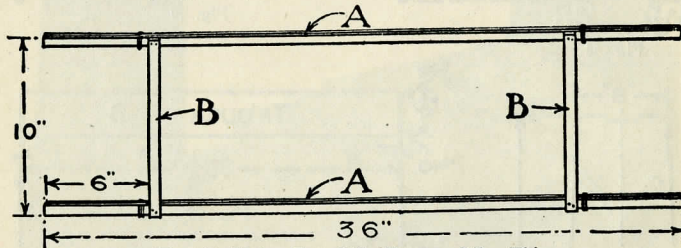
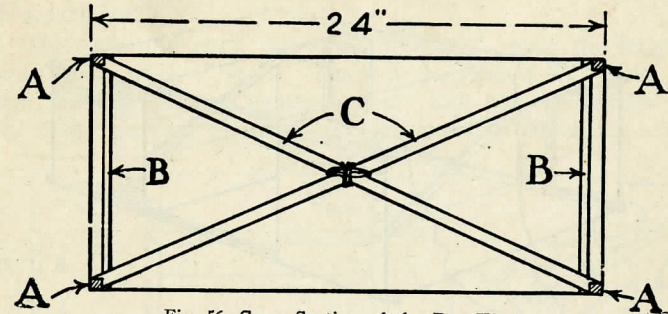
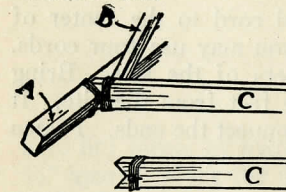

Fig. 55—Make Two Side Frames Like This
Fig. 56—Cross-Section of the Box Kite
Fig. 57—Detail of Diagonal Braces
The sticks may be of any strong, light-weight wood of straight grain. Cut with a sharp rip saw four horizontal sticks 3/8 inch thick and 3/8 inch wide by 36 inches long (A, Fig. 55), and four upright connecting sticks (B, Fig. 55) 1/4 inch thick, 1/2 inch wide and 10 inches long. Nail the upright sticks and the horizontal ones 6 inches from the ends of the latter, as shown in Figure 55, using slender brads (slender box-nails are best as these have flat heads). Clinch the projecting ends. Be sure to set sticks B at right angles to sticks A (Fig. 55).
To put the kite together, slip these cloth or paper bands over the side frames, spread the frames as far apart as possible, and put in temporary sticks between the upright sticks (B) to hold the frames stretched. Carefully measure the cells diagonally. For the diagonal braces see Figure 56. These should be notched at the ends to fit the sticks A, as shown in Figure 57, and they should be a little long, so that they will be slightly bow shaped when put in place, to keep the cloth or paper bands stretched tight. Remove the temporary braces.
Lash the notched ends with thread to keep them from splitting. Lashings of thread around the frame sticks (A) (Figs. 55 and 57) will keep them from slipping away from the uprights (B). Bind the braces together at their centers, as shown in Figures 56 and 58. Coat the lashings with glue after winding them and the thread will hold its position better.